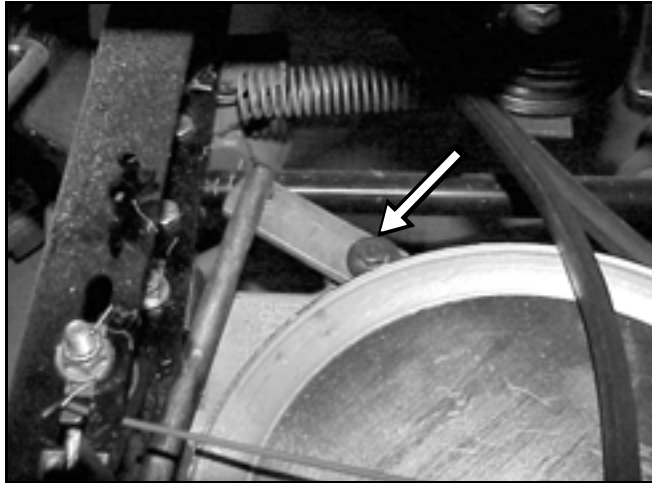

Figure 46
5. Disconnect the shift link at the transaxle shift lever (Figure 46).